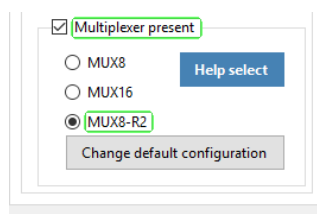

Figure 3.3: Multiplexer presence in General Settings...
3. Check *Multiplexer present* and choose the MUX8-R2 (see Figure 3.3)